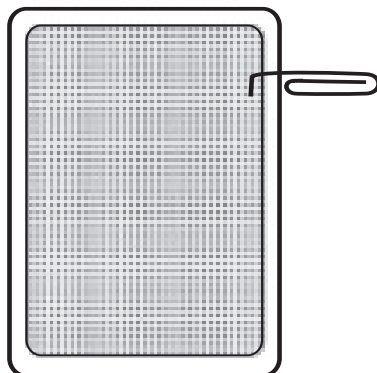

Figure 7
1. Separate the parts of the speaker. The grille can be removed simply by carefully hooking it with a bent paperclip and pulling it gently away from the frame. [Figure 7]